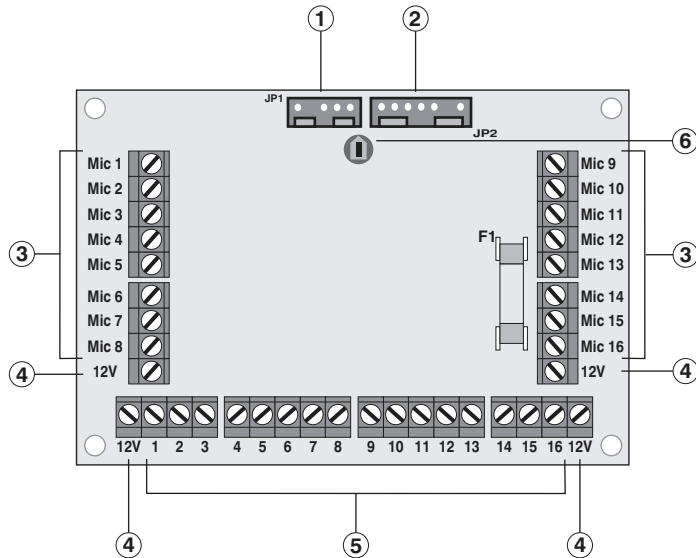

Figure 1. AV Module PCB Layout
- 5) Enter [0][1] to select *RMU* 01 and listen to the audio response on your telephone. You can press the [*] key to generate a “Ping” tone if required. If the audio level is to low or high the level can adjusted for ALL microphones by adjusting the volume level on the *AV Module* PCB (see Figure 1). If the audio level is to low or high for a particular microphone it can adjusted at the microphone itself.